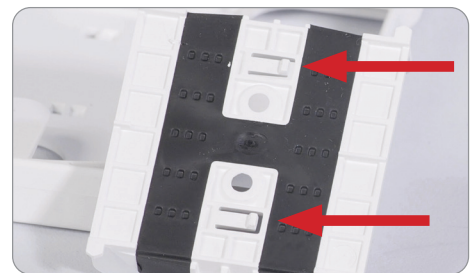

Figure 68
1. To add a splice module to splice tray, simply align the latch tabs (Figure 68).